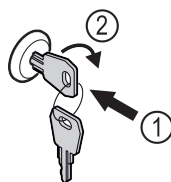

Fig. 124
- ▶ Insert the key. Fig. 124 (1)
- ▶ Turn the key clockwise by 90°. Fig. 124 (2)